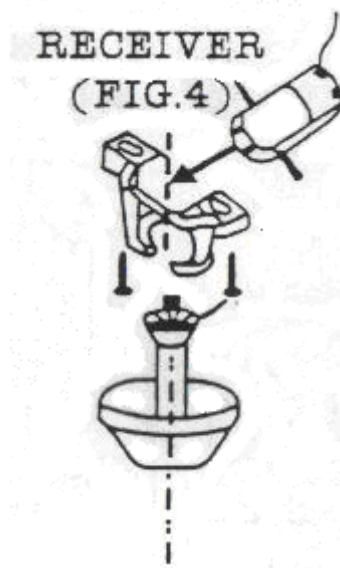

Fig. 4
7. Connect **TO MOTOR N** of control unit wire to the **COM (N)** fan wire.
8. Connect **TO MOTOR L** of control unit wire to the **MOTOR (L)** fan wire.
12. Lay the control unit in the CANOPY. (See Fig. 4).
NOTE: This remote control is only suitable where the controller/receiver can be inserted inside the canopy cover safely and securely. Ceiling fan with mount bracket type shown in Fig. 4 would be suitable.